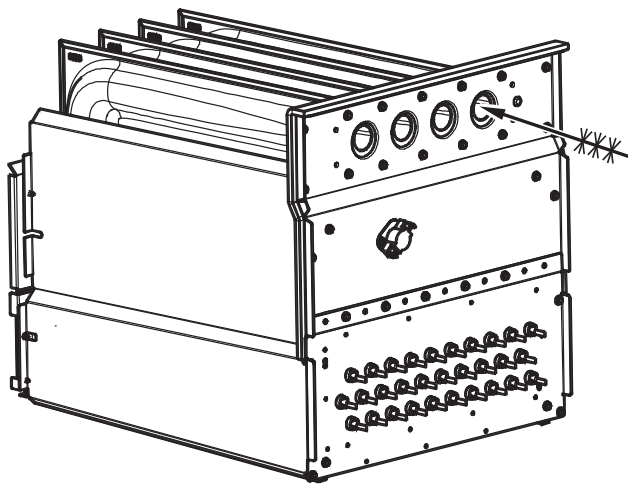
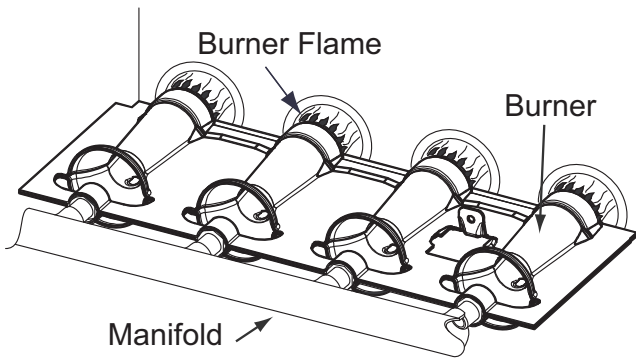

Fig. 68 – Cleaning Heat Exchanger Cell
Fig. 69 – Burner Flame
7. Clean heat exchanger openings with a vacuum and a soft brush. See Fig. 68.
8. Reverse items 6 through 1 for reassembly.
11. Check furnace operation through 2 complete heat operating cycles. Look at burners. Burner flames should be clear blue, almost transparent. See Fig. 69.